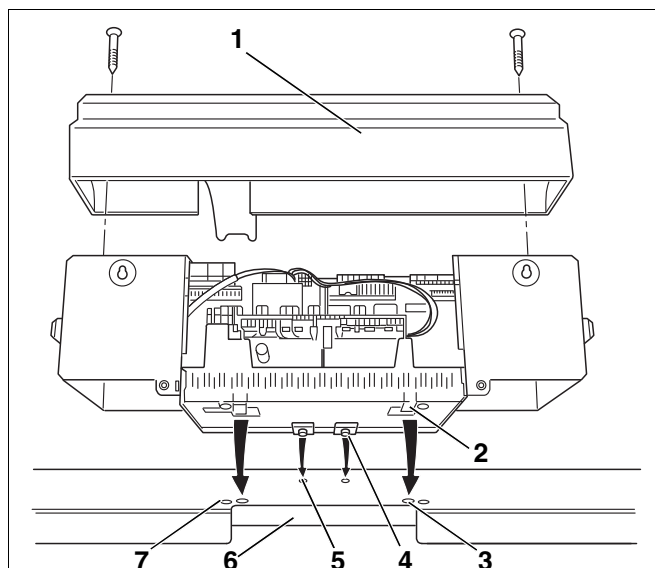
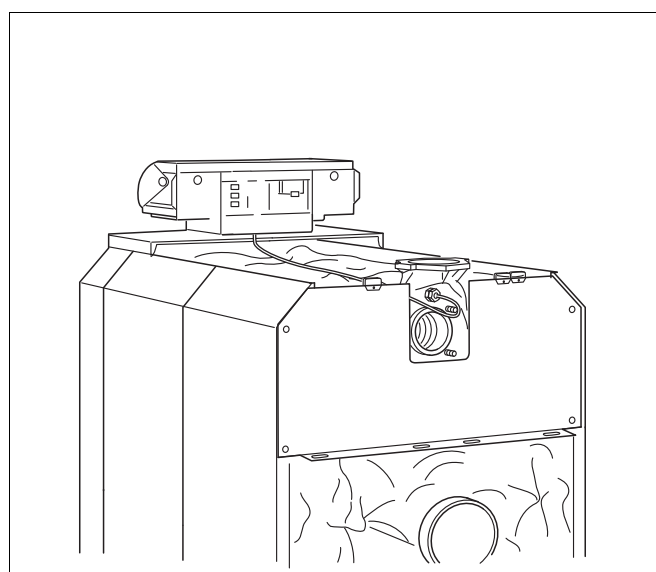

Fig. 60 Installing the control unit
Fig. 65 Boiler with fitted control unit
Fig. 60 shows the control unit and the front cover "A" from the rear.
- ▶ Undo both screws in the terminal cover (Fig. 60, [1]). Lift off the terminal cover.
- ▶ Put the control unit in place Fit the control unit at the front by inserting the locking tabs (Fig. 60, [4]) into the oval holes in the front boiler cover (Fig. 60, [5]). Pull the control unit forwards and then tip backwards. The resilient hooks (Fig. 60, [2]) must latch into the rectangular openings at the back of the front boiler cover (Fig. 60, [3]).
- ▶ Screw the base of the control unit on the left and right of the cable entry (Fig. 60, [6]) on the front boiler hood using two self-tapping screws (Fig. 60, [7]).
- Screw terminal cover (Fig. 60, [1]) with the two self-tapping screws back into the control unit base (Fig. 65).